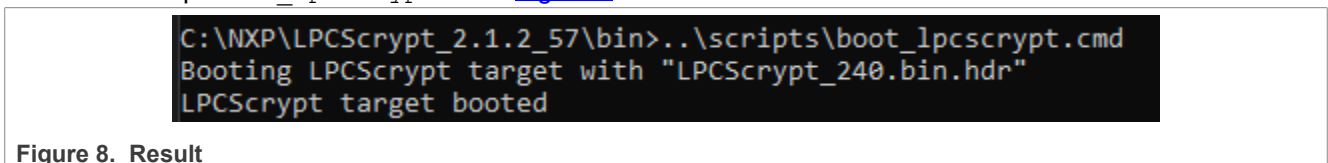

Figure 8. Result
6. Open a command window and go to the LPCScrypt installation directory. Go to the `bin` subdirectory and run the script `boot_lpcscrypt.cmd`. Figure 8 shows the result.